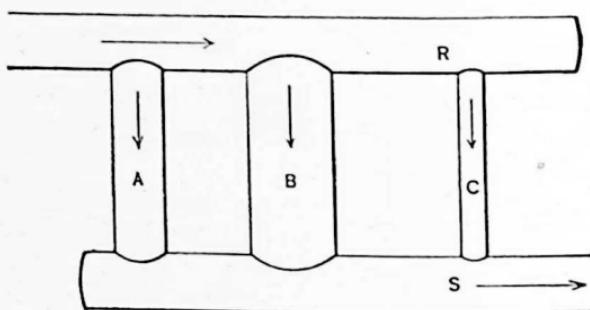

FIG. 40. The pipes *A*, *B* and *C* are in parallel.
19. Parallel Circuit. Voltage. Suppose, as in Fig. 40, we should join two main pipes *R* and *S* by means of three parallel pipes *A*, *B* and *C*. All the parallel pipes lie between the same two levels, that is, the levels of *R* and *S*. Thus there is the same difference of level across them. We have seen that it is this difference of level that causes the
20. Parallel Circuit. Current. Turning again to Fig. 40, it is seen that, since the pipes *A*, *B* and *C* are not joined in series, they are independent of one another, and do not have to carry the same current. In fact, it is very evident that the largest pipe will carry the largest current and the smallest pipe the smallest current. Water and electricity do not take the path of least resistance. They take all paths. Where the path is of small resistance, a heavy current flows. Where there is a path of large resistance, a small current flows. But the water or the electricity is sure to make use of both the low resistance and the high resistance paths and force as much current as possible through both. The total current that flows through is merely the sum of the currents in the separate paths.
Or, referring to Fig. 40, it can be seen that the more pipes there are connected in parallel between the main pipes *R* and *S*, the easier it is for the water to get from one main pipe to the other. Hence the smaller the resistance between the main pipes.